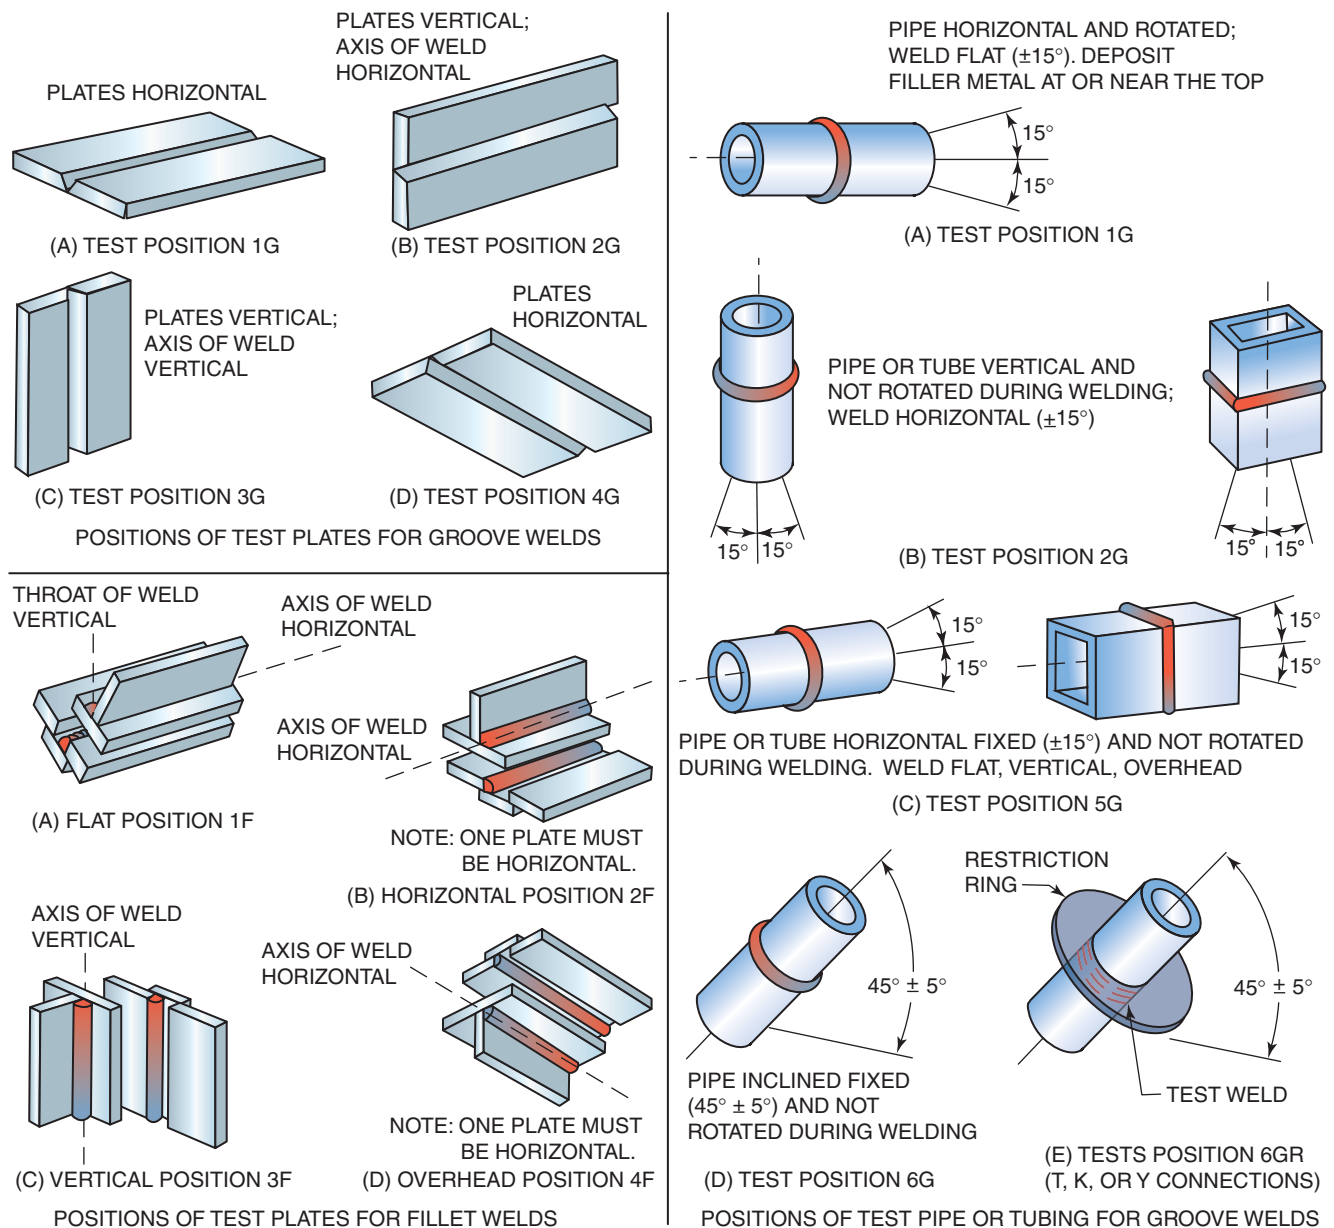

Figure 5.5 Weld positions
25. Usually one (1) except for some automatic SAW process that may use multiple electrodes with multiple arcs
29. Test position: 1G, 2G, 3G, 4G, 1F, 2F, 3F, 4F, 5G, 6G, 6GR. See Figure 5.5.
37. Four (4) test specimens are used for 3/8-in. or thinner metal. Two (2) will be root bent and two (2) face bent. For thicker metal all four (4) will be side bent.